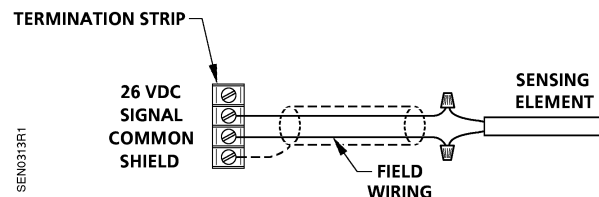

Figure 4. Typical 1000 ohm RTD Connection.
14. Connect the field wires to the applicable controller. See Figure 4.